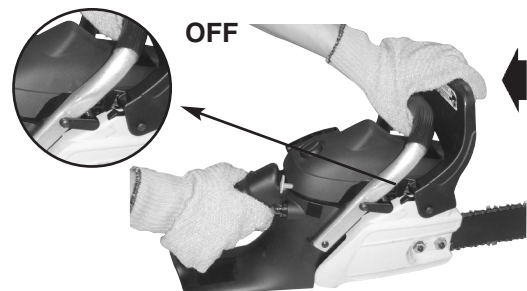

Fig. 30
1. The **CHAIN BRAKE[®]** is **DISENGAGED** (chain can move) when **BRAKE LEVER IS PULLED BACK AND LOCKED**. Be sure the chain break latch is in the **OFF** position. (Fig. 30).
2. The **CHAIN BRAKE[®]** is **ENGAGED** (chain is stopped) when brake lever is in forward position and the chain break latch is in the **ON** position. You should not be able to move chain (Fig. 30).